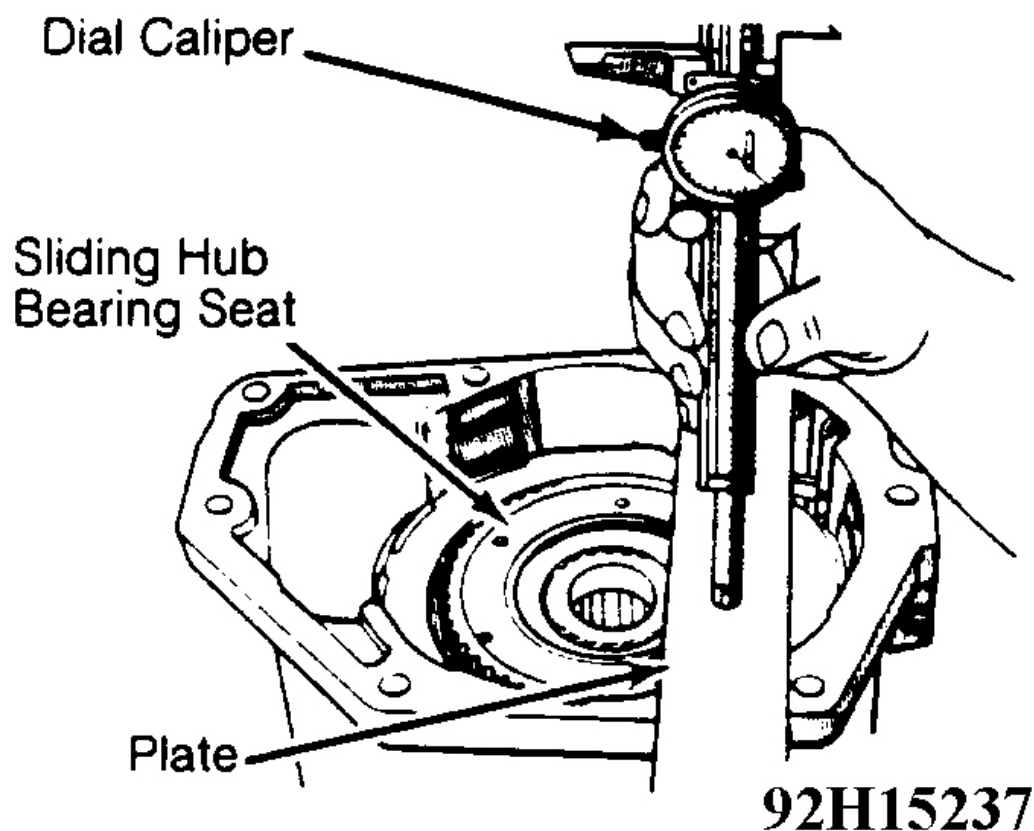

Fig. 24: Determining Overdrive Piston Shim Thickness
12. To determine OD piston shim thickness, position Plate (C-6311) across OD case face. Using dial caliper tool positioned over Plate (C-6311), measure distance to sliding hub bearing seat. See **Fig. 24**.